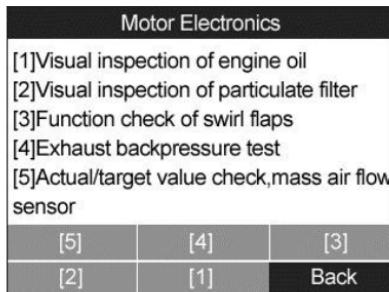

Figure 11.29
- a) From the particle filter test menu (*Figure 11.29*) use the **LEFT/RIGHT** scroll button to select [1] and press the **OK** button.
- a) From the particle filter test menu (*Figure 11.29*) use the **LEFT/RIGHT** scroll button to select [2] and press the **OK** button.
- a) From the particle filter test menu (*Figure 11.29*) use the **LEFT/RIGHT** scroll button to select [3] and press the **OK** button.
- a) From the particle filter test menu (*Figure 11.29*) use the **LEFT/RIGHT** scroll button to select [4] and press the **OK** button.
- a) From the particle filter test menu (*Figure 11.29*) use the **LEFT/RIGHT** scroll button to select [5] and press the **OK** button.